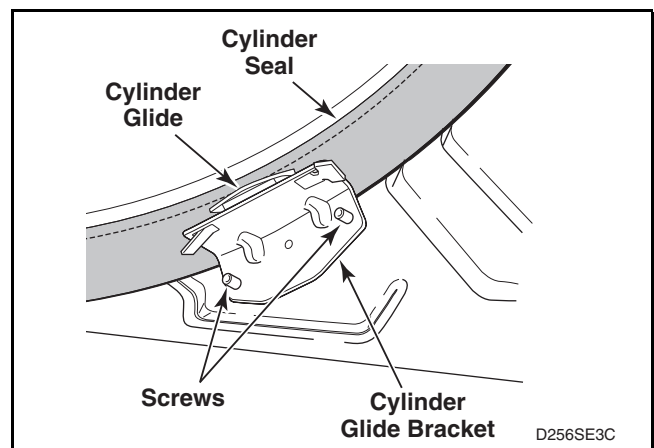

Figure 49
- Cylinder Glides and Glide Bracket.** Refer to *Figure 49*.